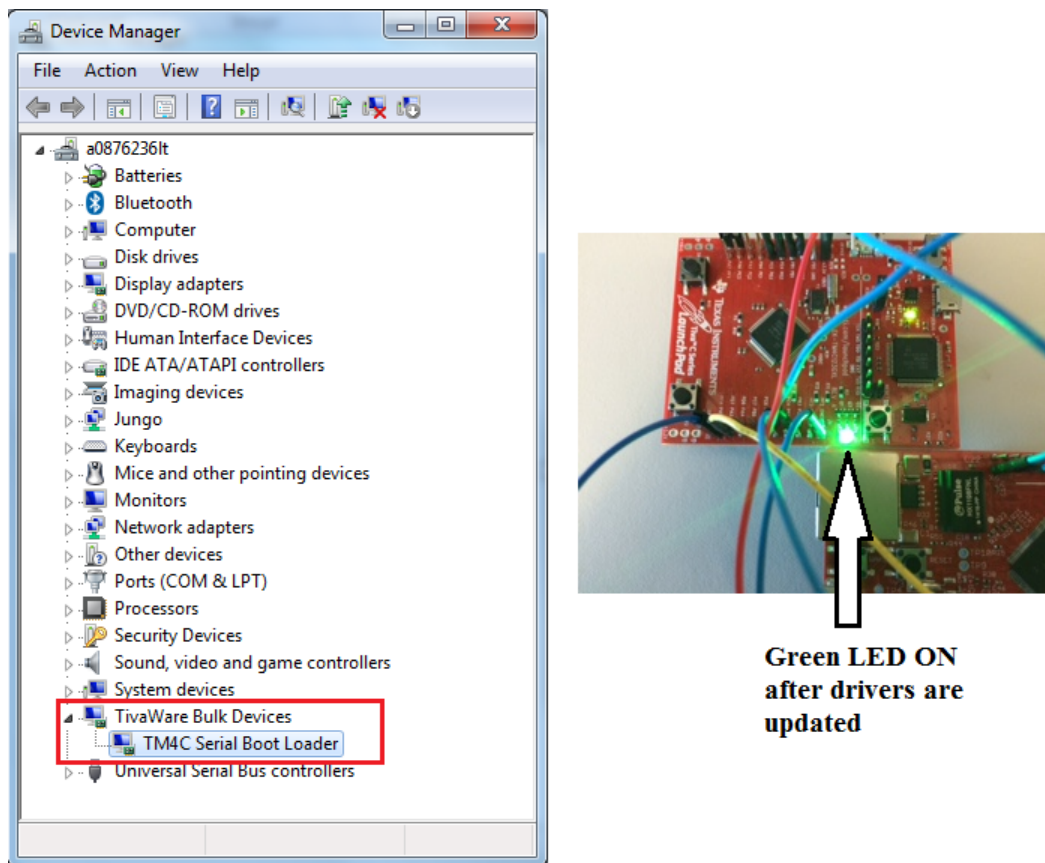

Figure 35. Device Manager and Board View After Driver Installation
7. You will get a prompt by the Windows OS because the drivers are not signed. Accept the warning message. Once the Windows OS updates the drivers, the device is re-enumerated as “TM4C Serial Bootloader” and the Green LED on the board is lit, which indicates that the device is now enumerated and connected to the PC Host, as shown in Figure 35.